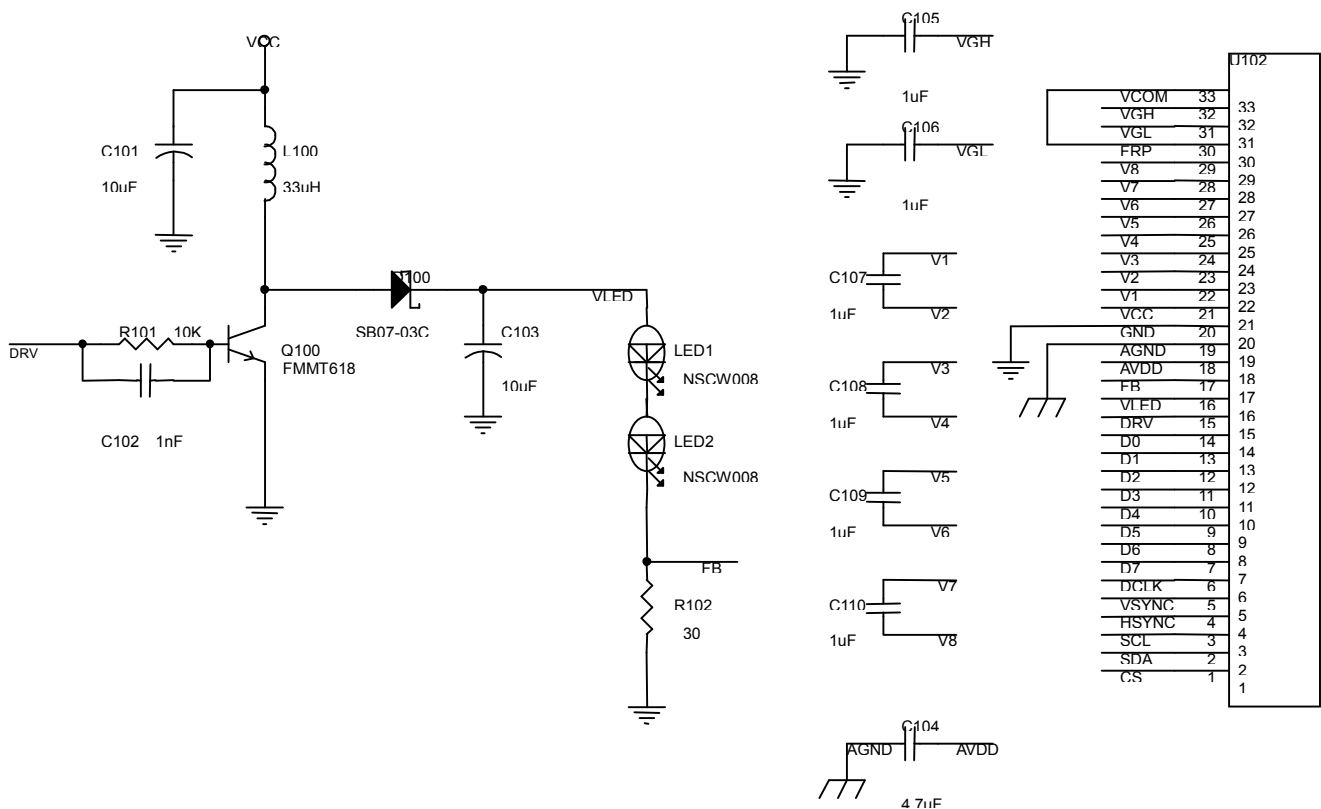

Fig.11 Typical Application Circuit
The integrated driver IC provides build-in LED booster controller, DC-DC charge pump, and Vcom driver. See Fig. 11 for the application circuit.
According to Fig. 11, the L100, Q100, D100, and C103 together form the LED boost converter. The converter with 0.6V feedback (FB) and R102 provide a constant 20mA current for LED backlight unit. The boost converter switching signal DRV is generated based on the divided frequency of DCLK. Therefore, the DCLK input is required for LED driver operation, and the absence of DCLK signal during normal operation will set the driver IC into standby mode. A low ESR capacitor for C103 is recommended in order to reduce voltage ripple of